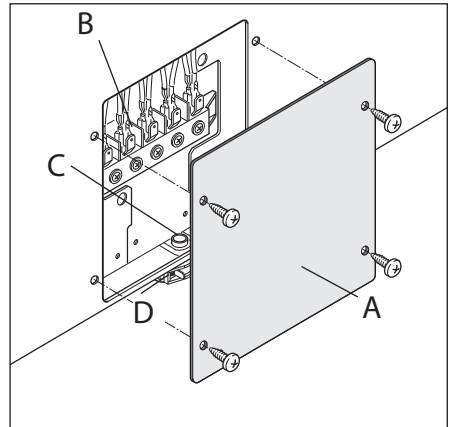
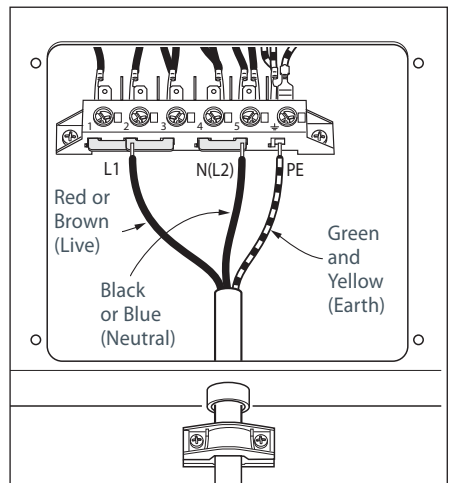

Fig. 16a Accessing the terminal block
Fig. 16b Electrical connection
- 3 Check the position of the U bolts on the terminal block "B" (Fig. 16a) corresponds to the connection diagrams in Fig. 16b and Fig. 16c.
- 5 Connect the phase and earth cables to terminal "B" according to Figs. 16b and 16c.